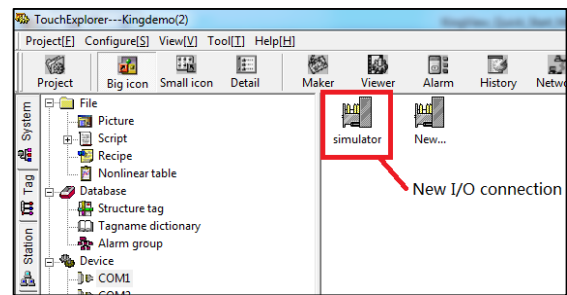

Fig. 16 Device Configuration Wizard-3
- For the other steps, use the default settings, and click “Finish” to complete the configuration. The new I/O connection is shown as Fig. 16.